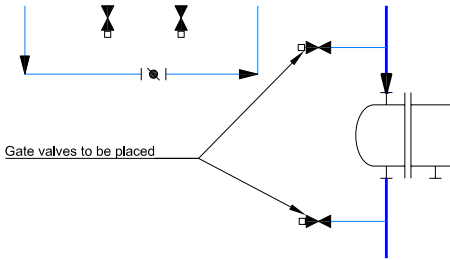

Figure 2-69 Locations of the secondary lines and gate valves
17. Similarly, create secondary lines and place the plugs and gate valves at the locations shown in Figure 2-69.